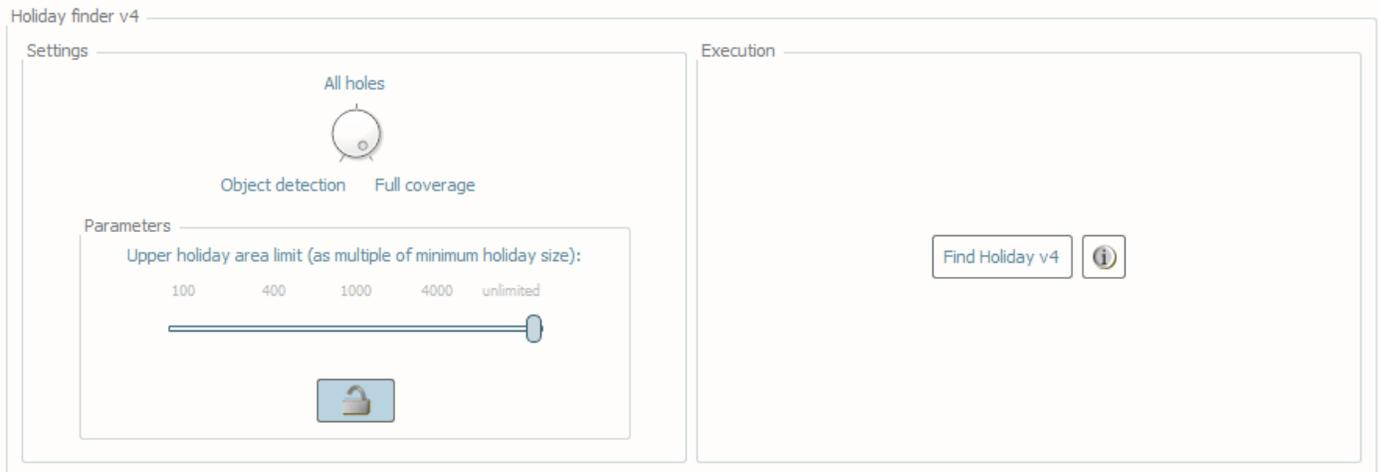

Fig. 2.11: The **Detect holidays** tab.
- Select the **Detect holidays** tab (Fig. 2.11) on the bottom of the QC Tools interface.